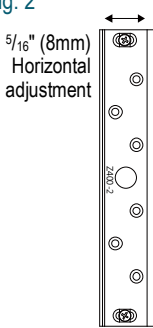

Fig. 3
3. Remove the rim strike cover. Thread the strike wiring through the bracket wiring hole and mount to the bracket using the included mounting bolts and washers through the oblong holes at each end of the strike (Fig. 3). These holes allow the strike up to  $\frac{1}{8}$ " (3.5mm) horizontal adjustment (Fig. 4).